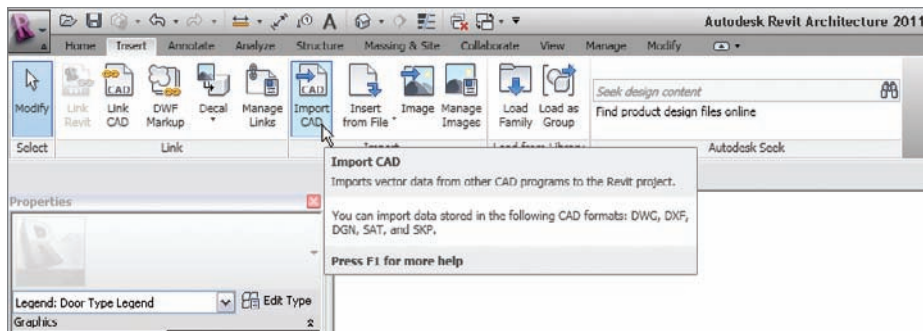

FIGURE 11.54 Importing CAD formats
4. On the Insert tab, click Import CAD, as shown in Figure 11.54.